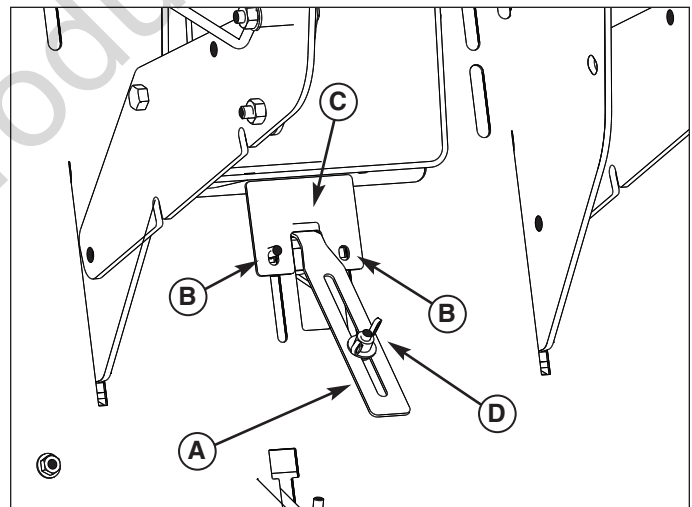

Figure 10. Catcher Alarm Adjustment
Sliding the paddle bracket (C, Figure 10) up increases the volume of grass in the collector before the alarm goes off. Sliding the paddle bracket (C) down decreases the volume of grass in the collector before the alarm goes off.
1. Loosen bracket hardware (B).
2. Slide paddle bracket (C) up or down.
3. Tighten bracket hardware (B).
Sliding the carriage bolt, washer and nut (D, Figure 10) up decreases the sensitivity in the collector before the alarm goes off. Sliding the carriage bolt, washer and nut (D) down increases the sensitivity in the collector before the alarm goes off.
1. Loosen carriage bolt, washer and nut (D).
2. Slide carriage bolt, washer and nut (D) up or down the alarm paddle (A).
3. Tighten carriage bolt, washer and nut (D).